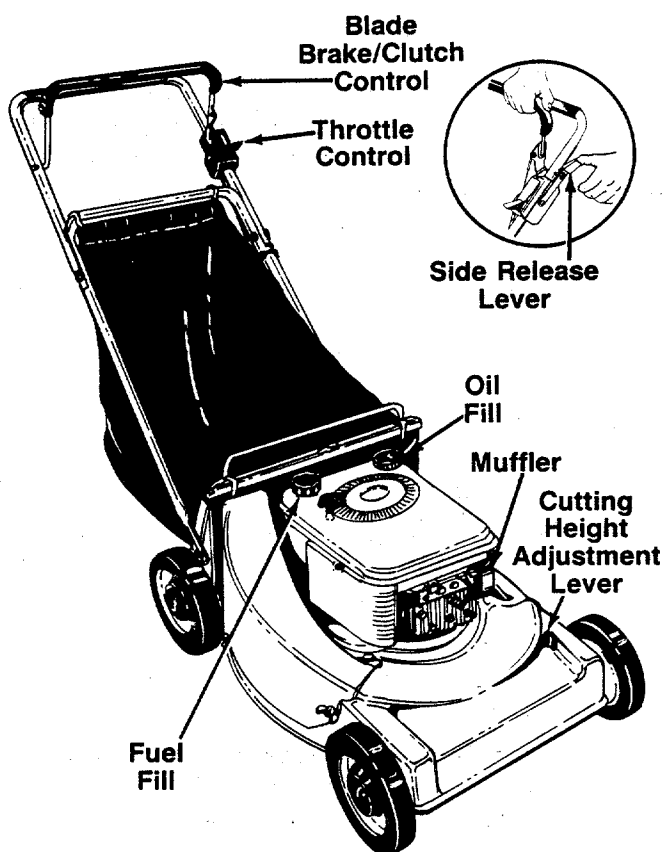

FIGURE 13.
The throttle is located on the left side of handle. It controls engine speed. See figure 13.
To engage the blade, pull the side release lever away from the unit. See figure 13. Pull the blade brake/clutch control handle against the upper handle. Release side lever.
2. To engage the blade, pull the side release lever away from the unit. Pull the blade brake/clutch control handle down against the upper handle. Release the side lever. See figure 13.